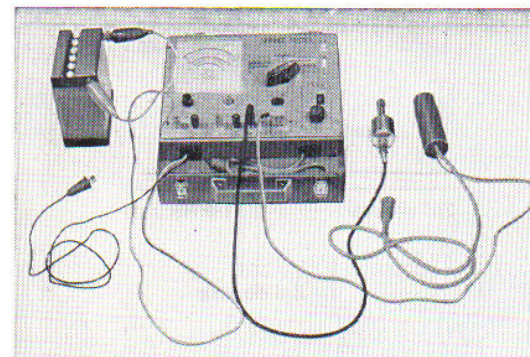

Fig. 5.108 Timing measurement preparation
- (1) Setting the tester switch to "Timing", start the engine. The timing light will flash.
- (2) Apply the timing light illumination to the generator rotor. The ignition timing mark on the rotor can be seen. Observing the difference between the marks on the generator stator and rotor, loosen the contact breaker installing screw, and adjust the ignition timing. (Fig. 5.108)